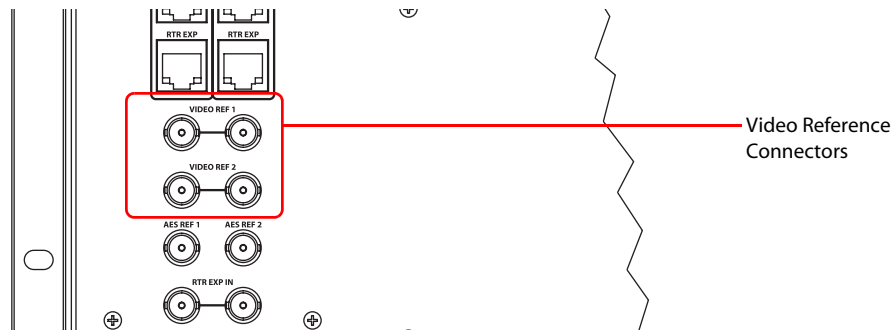

Figure 2-20. Video Reference Connections (Rear View)
- 1 Locate the video reference connections on the rear of the router, as shown in Figure 2-20. Video reference connections are labeled 'VIDEO REF 1' and 'VIDEO REF 2'.